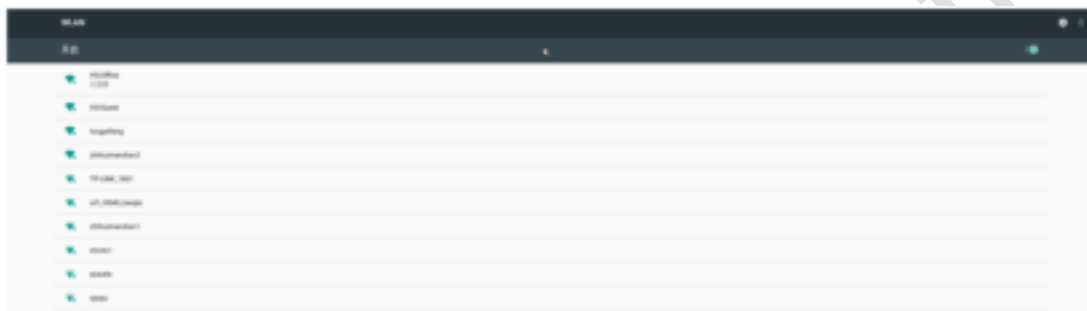

Figure 4-2 Turn on wireless network connection
2. On the upper-right corner of the page, tap the switch to turn on the Wi-Fi connection function. The system automatically searches for available wireless networks, and then lists available network access points, as shown in Figure 4-2.